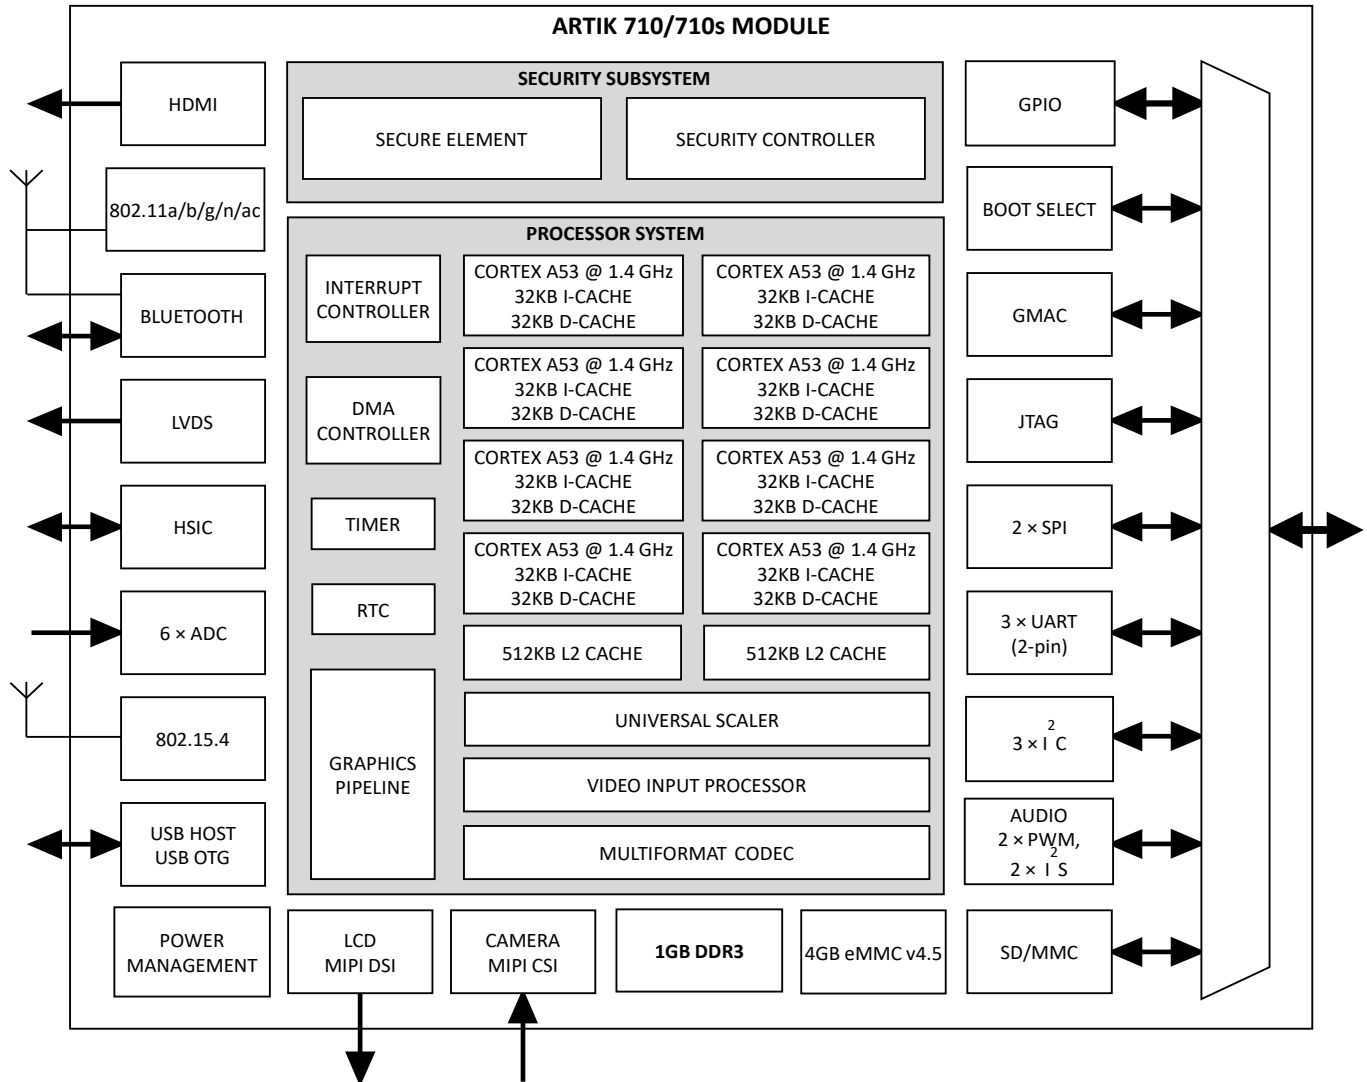

Figure 2. ARTIK 710/710s Module Functional Block Diagram
*Figure 2* shows the functional block diagram of the ARTIK 710/710s Module. It consists of an octa-core ARM® Cortex®-A53 application processor with 1GB of DDR3 and 4GB eMMC, PMIC power management, Security Subsystem, 802.11 for Wi-Fi®, Bluetooth®, 802.15.4 for Zigbee, and RF connectors.
The following subsections describe the functions of the various ARTIK 710/710s Module blocks depicted in Figure 2.
The ARTIK 710/710s Module provides a GPIO system with up to 110 GPIOs multiplexed with other I/O interface lines, as shown in Figure 2 to support a wide variety of use-cases. The key features of the GPIO system are as follows: